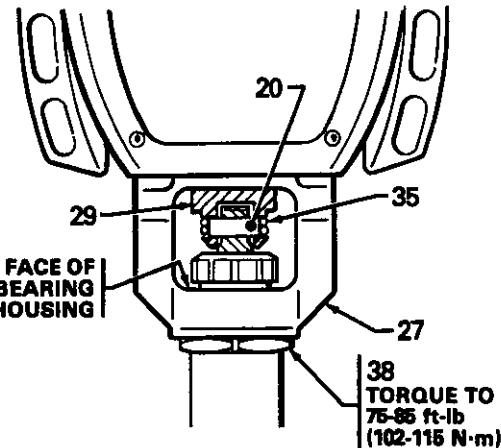

Fig 24
14. Install the screws (33) and lockwashers (49) on the bearing housing and tighten evenly.
15. Screw the displacement pump about 3/4 of the way into the bearing housing (27). Hold the pin (20) up to the pin hole in the connecting rod assembly (29) and continue screwing in the pump until the pin slides easily into the hole. Back off the pump until the top threads of the pump cylinder are flush with the face of the bearing housing and the outlet nippie (46) is facing back. Push the retaining spring (35) into the groove all the way around the connecting rod. Tighten the locknut (38) very tight—about 75-85 ft-lb (102-115 N·m)—with a 2 in. open end wrench and a light hammer. See Fig 24.
Be sure the retaining spring (35) is firmly in the groove of the connecting rod, *all the way around*, to prevent the pin (20) from working loose due to vibration. See Fig 24.